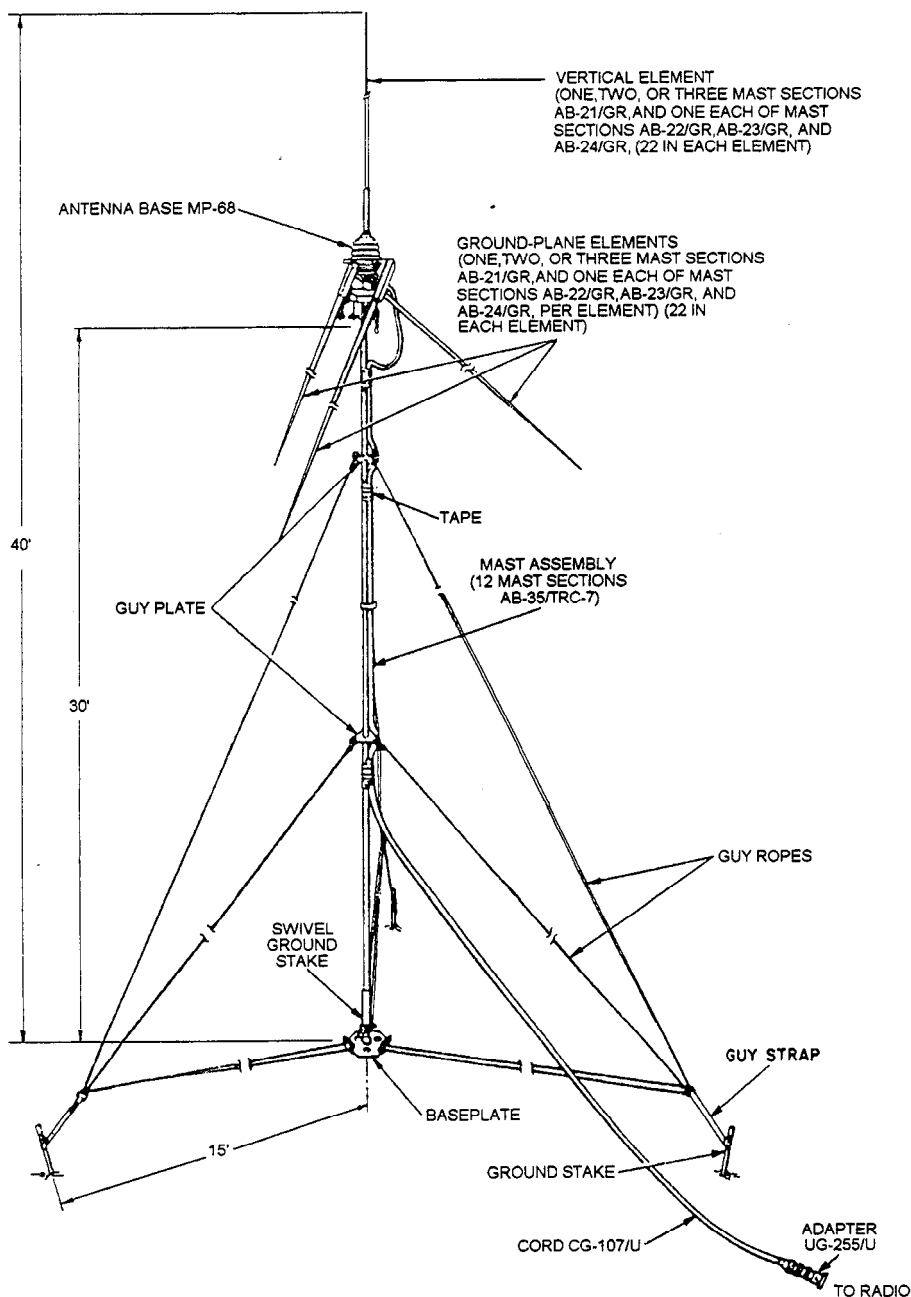

Figure 11-13.—Antenna RC-292 setup.
The antenna (fig. 11-13) consists of one vertical radiating element that makes an angle of 140 degrees with the vertical element. Antenna Base MP-68 mounts the four antenna elements and provides for connecting the antenna to the radio set by the CG-107/U. Twelve Mast Sections AB-35/TRC-7, joined together, form the 30-foot mast assembly for elevating above ground. The mast assembly is supported on Mast Base Assembly AB-154/U installed in the baseplate and is held in a vertical position by six guy ropes. The lengths of the antenna elements are adjusted for different frequency ranges by changing the number of mast sections that
5. Guy Ropes, Guy Plates, and Guy Stakes. These items hold the mast assembly in a vertical position (fig. 11-13).